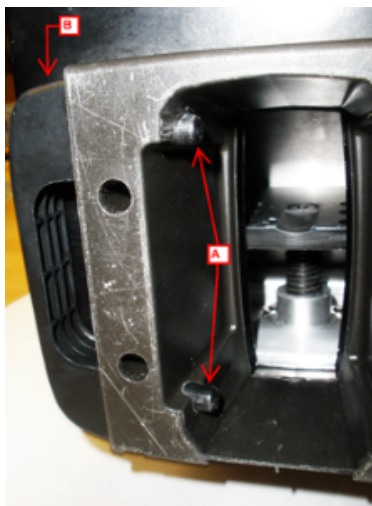

Figure 10. Bottom of Sample Chamber. A. Two pegs B. Release handle
3. On the Sample chamber there are two pegs and a release handle (Figure 10). The release handle controls the pegs.